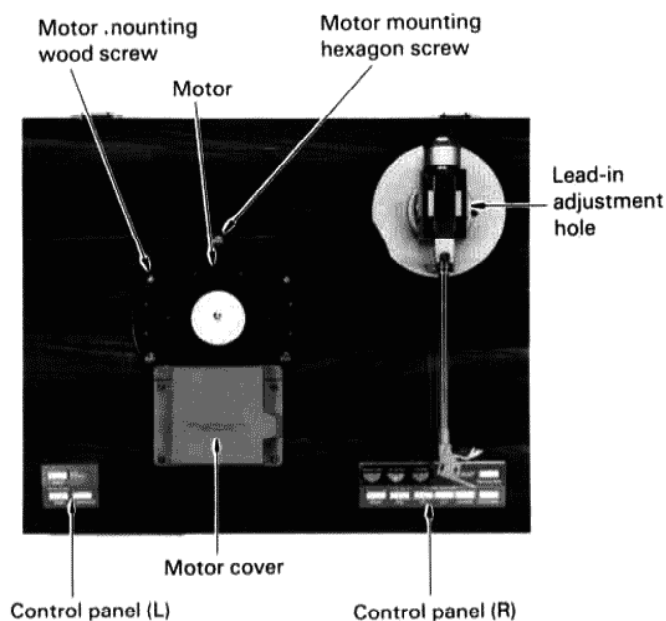

Fig. 26
■ Removal of tonearm section (Figs. 26 and 27)
■ Removal of control panel section (Figs. 26 and 29)
■ Removal of LEDs on control panel section (Figs. 26 and 29)